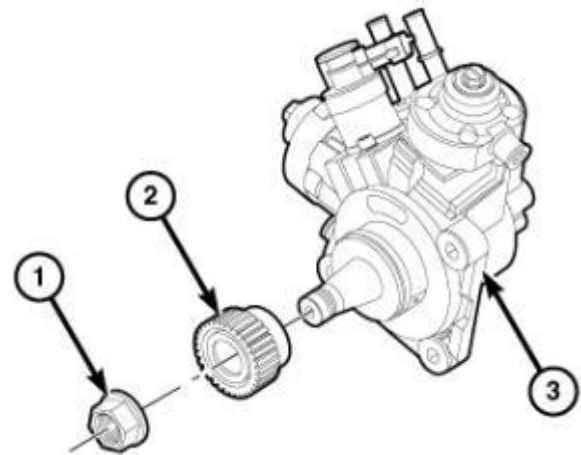

Figure 41 – Gear Removal
- 76. The use of Puller 1023 or a commercially available gear puller is required to remove the fuel injection pump gear (Figure 41).
NOTE: The use of Puller 1023 or a commercially available gear puller is required to remove the fuel injection pump gear (2) (Figure 41).